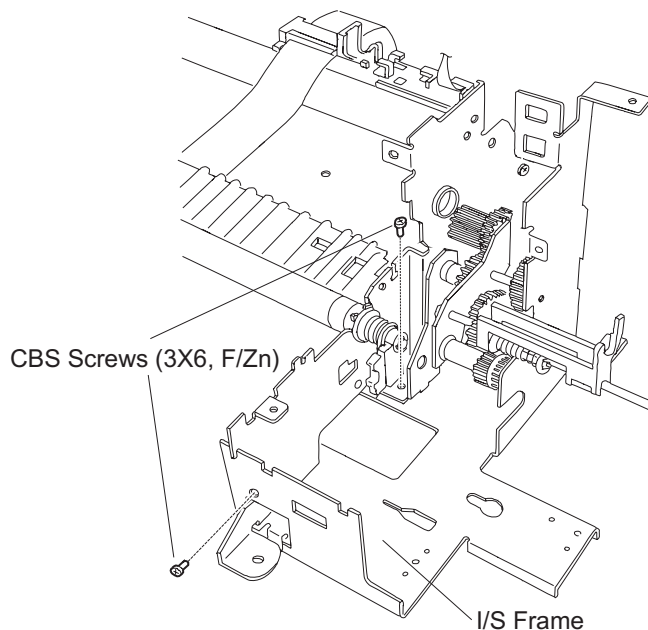

Figure 3-58. I/S Frame Removal (1)
3. Remove the head FFCs from the sub cable holder. (See Figure 3-58.)